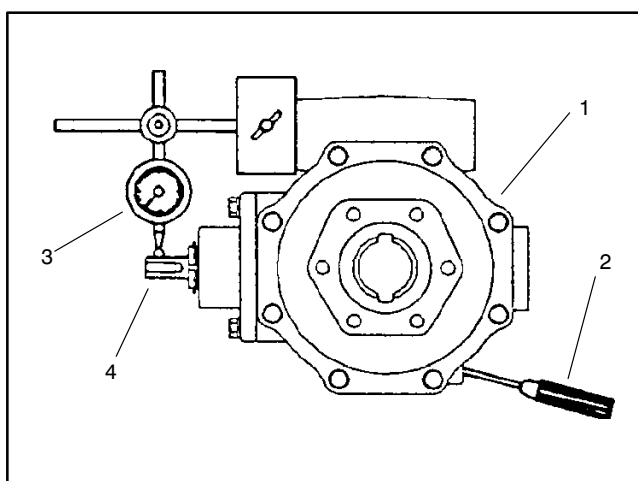

Figure 19
11. Insert a screwdriver through the drain plug hole to hold ring gear and measure the pinion gear to ring gear backlash (Fig. 19).